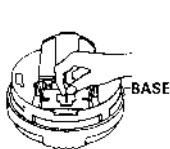
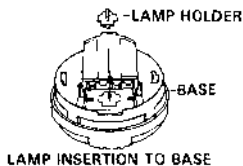
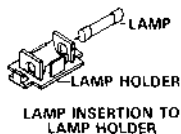

FIGURE 10
FIGURE 10A
FIGURE 10B
**LAMP REPLACEMENT:** The Safety Light uses a 6.3 volt 250mA fuse type lamp which has an average life of 50 hours. If the Safety Light does not operate with a fresh alkaline battery, replace the lamp. To replace the lamp, remove the alarm from trim ring by following the ALARM REMOVAL instructions at the beginning of this section. Open the battery door and remove both batteries from the unit. Grip the lamp holder with your thumb and finger (see figure 10) and pull out the lamp holder assembly (see figure 10A). Slide the old lamp out of the lamp holder and replace it with a new lamp (see figure 10B).